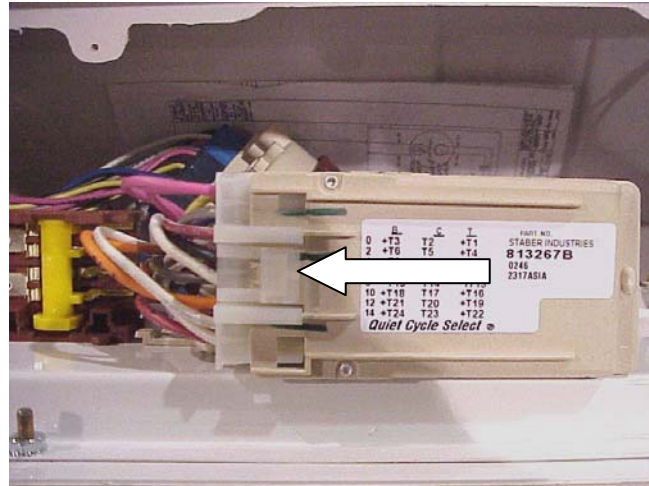

Figure 3
- Lift up gently on plastic tab to remove wire harness plug (see Figure 3).